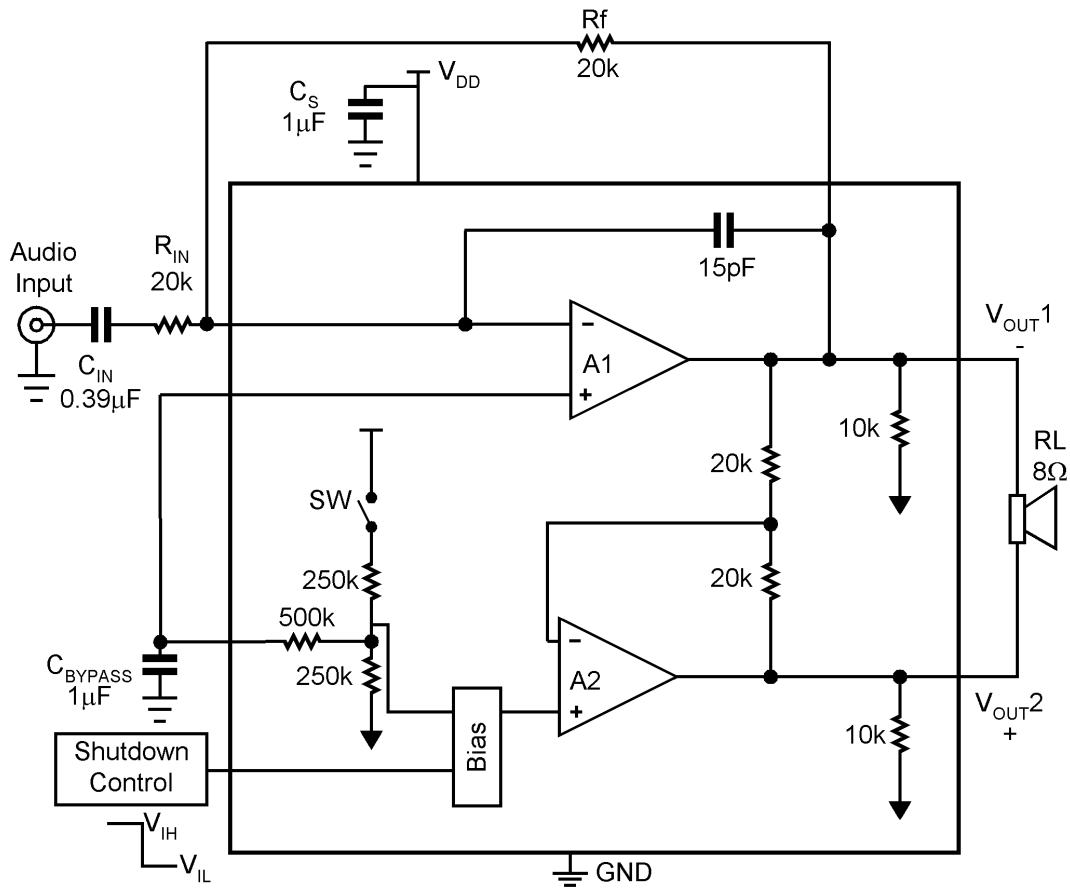

FIGURE 1. Typical Audio Amplifier Application Circuit
■ PSRR at 217Hz, V DD = 5V (Fig. 1)	62dB(typ.)
The following specifications apply for the circuit shown in Figure 1 unless otherwise specified. Limits apply for  $T_A = 25^\circ\text{C}$ .
The following specifications apply for the circuit shown in Figure 1 unless otherwise specified. Limits apply for  $T_A = 25^\circ\text{C}$ . (Continued)
The following specifications apply for for the circuit shown in Figure 1 unless otherwise specified. Limits apply for  $T_A = 25^\circ\text{C}$ .
## External Components Description (Figure 1)